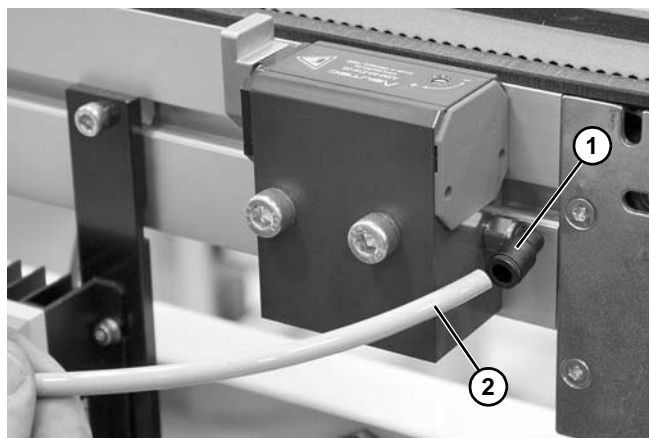

Figure 42
2. Connect the 3-port 2-way solenoid valve to the stop. Dorner fittings (**Figure 42, item 1**) accept 1/4" outside diameter tubing standard (**Figure 42, item 2**).